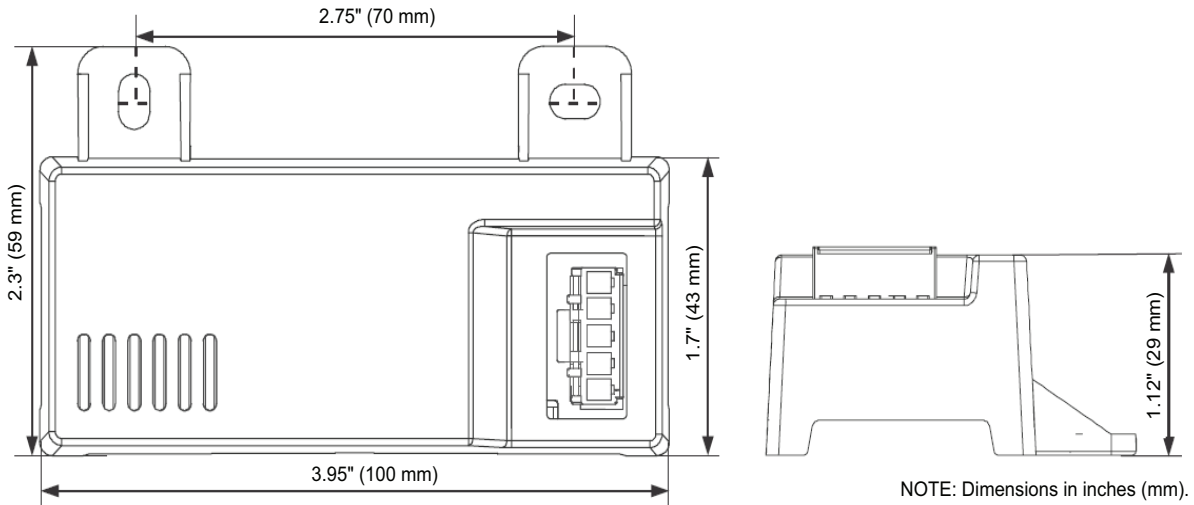
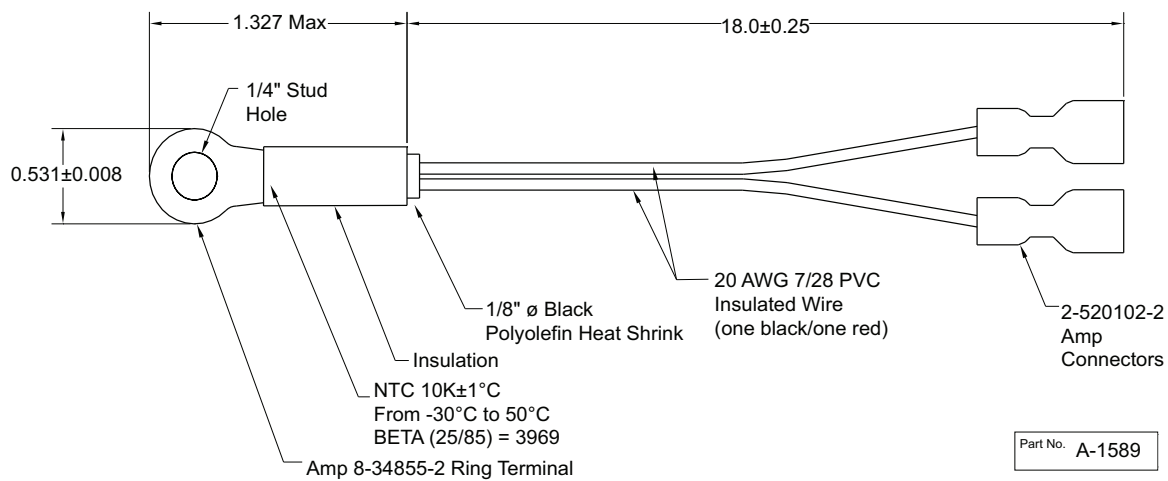
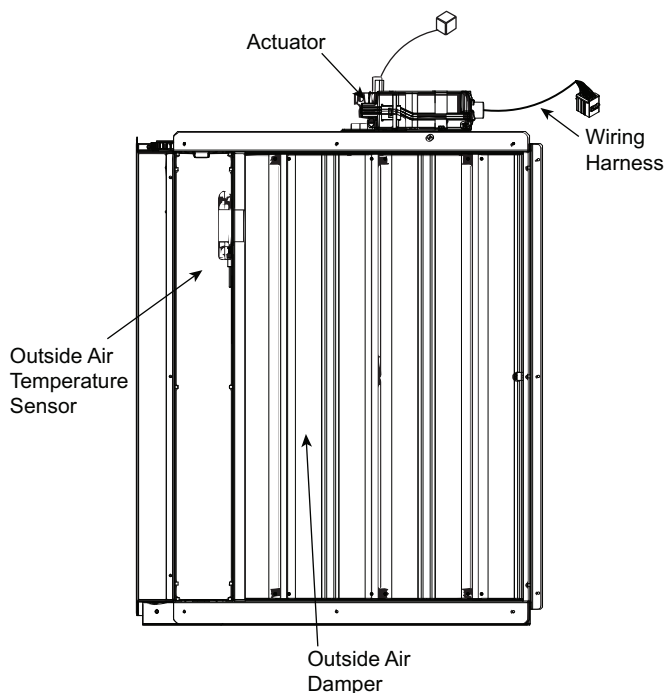

Fig. 85 — HH57LW001 Dimensional, Connection and Switching Information
Fig. 86 — HH79NZ039 Dry Bulb and Mixed Air Sensor Wiring
Fig. 87 — EconomizerONE Component Locations (CRECOMZR108A00 Shown)
When using the HH57LW001 enthalpy sensor (see Fig. 85) for outside air changeover, the existing HH79NZ039 dry bulb sensor (see Fig. 86) must be removed. The enthalpy sensor will be mounted in the same location as the dry bulb sensor (see Fig. 87). When the enthalpy sensor's OA (Outside Air) temperature, enthalpy, and dew point are below their respective setpoints, the outside air can be used for free cooling. When any of these are above the setpoint, free cooling will not be available. Enthalpy setpoints are configurable and create an enthalpy boundary according to the user's input. For additional details, see Fig. 88-89 and Table 33.
The optional enthalpy control sensor (P/N: HH57LW001) communicates with the POL224 economizer controller using the 5-wire harness, 48TC005213. The HH57LW001 sensor can be used as a single outside air enthalpy, a differential return enthalpy, or a differential return temperature sensor. Refer to the base unit control wiring diagrams found earlier in this book to wire the HH57LW001 enthalpy sensor for each option. Use Fig. 85 and Table 35 on page 62 to locate the wiring terminals for each enthalpy control sensor.
Economizers are shipped standard with an HH79NZ039 outside air dry bulb sensor (see Fig. 86). System default setting (high temp limit) is 63°F (17°C) and has a range of 48°F to 80°F (9°C to 27°C). Sensor is factory installed on economizer.
If installing the optional HH57LW001 enthalpy sensor, the HH79NZ039 dry bulb outside air sensor must first be removed. Wire sensor to harness 48TC005213 and the (5) wires from the harness to the EconomizerONE harness in the return air chamber. Harness 48TC005213 has a 5-pin plug that connects directly to the HH57LW001 enthalpy sensor. Refer to the base unit control wiring diagrams earlier in this book for wiring connections. Refer to Fig. 85 and Table 35.